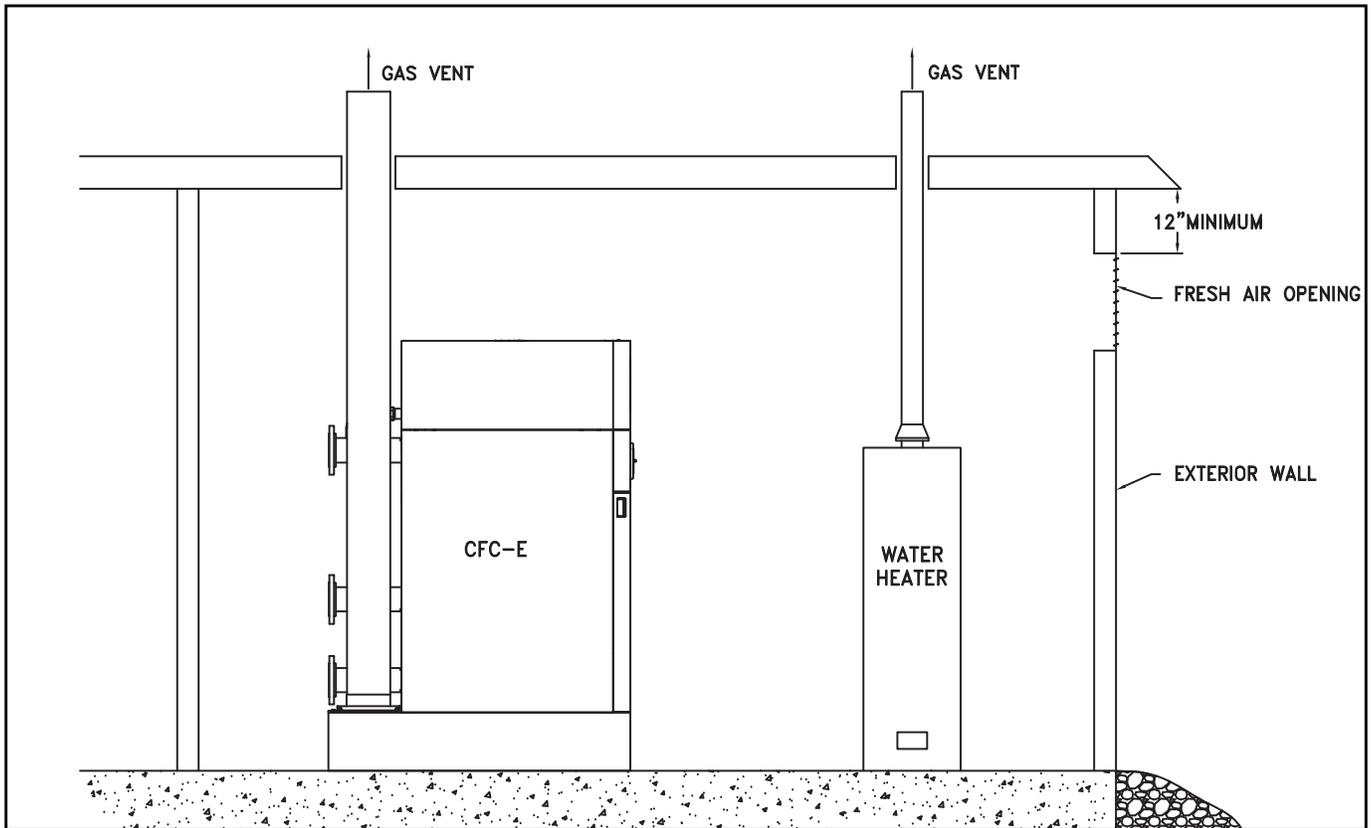

Figure 29. One Opening Method
- C. One Opening Method (Figure 29) - One permanent opening, commencing within 12 inches of the top of the enclosure, shall be provided.